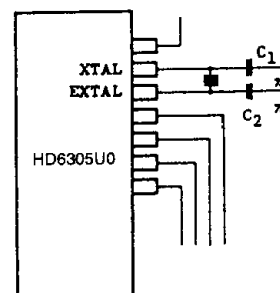

Figure 34 Design of Oscillation Circuit Board
- Board design of situating signal lines or power supply lines near the oscillator circuit as shown as Figure 35, should not be used because of trouble in oscillation by induction. The resistor between the XTAL and EXTAL, and pins close to them should be 10M Ω or more. The circuit in Fig. 34 is an example of good board design.